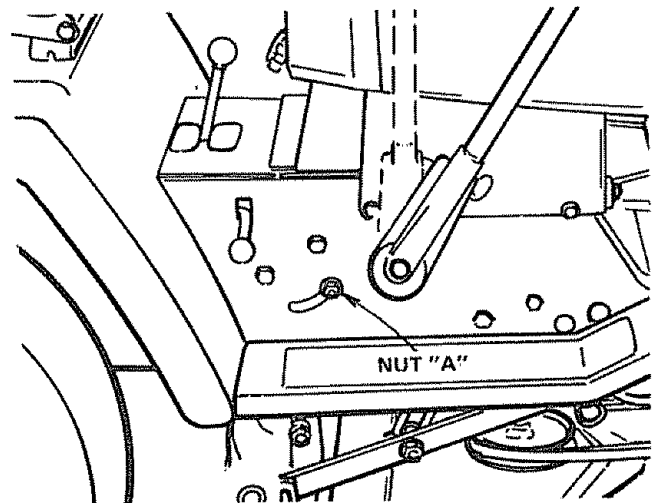

FIGURE 56
- c. Loosen Nut "A" located on outside of R.H. Chassis Frame (Fig. 56), slide Take-Up Idler down approximately 1/2" and tighten Nut "A".
- Loosen Nut "A" on R.H. outside of Frame (Fig. 56).